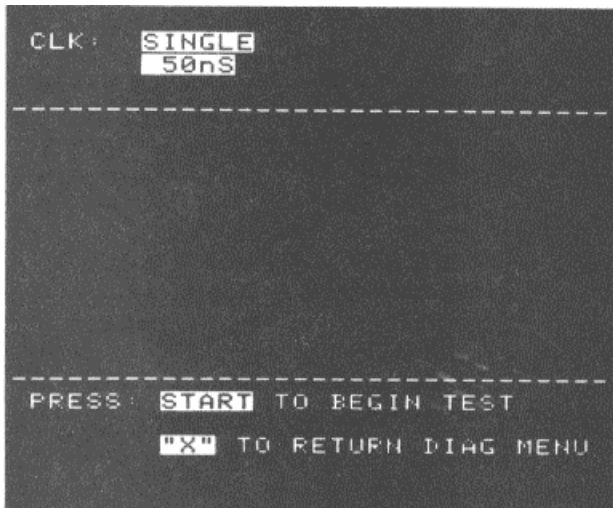

Figure 3-11. Display for CLK tests.
**CLK Test.** To enter this test, press 2 while in the Diagnostics menu. This is a test of the internal timebase. It is not a verification test; neither PASS nor FAIL will appear on the screen. If ALL is selected, the value of the clock interval being tested will appear on the screen. You should use an oscilloscope to observe the operation of this test. Refer to the Diagnostics menu or to the troubleshooting trees in *Section 7* for details. Figure 3-11 illustrates the CLK test.